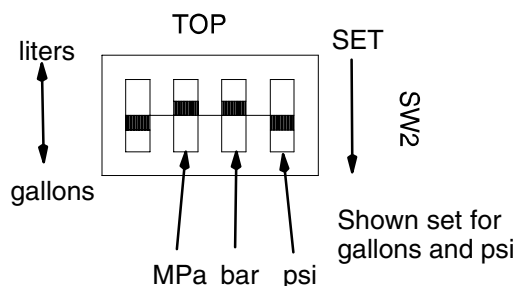

Fig. 9
4. Set switches on back of display (49) as desired, Fig. 9.